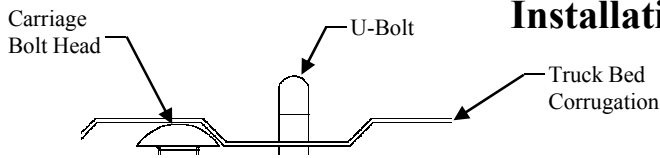

Figure 6
- Install under bed supports with (4) vertical 5/8" bolts in rails.
- Using the U-Bolt slots as a guide, drill four 9/16" holes in the bed. These holes must be in a lower bed corrugations to limit the amount of U-bolt showing above the bed (see figure 6).